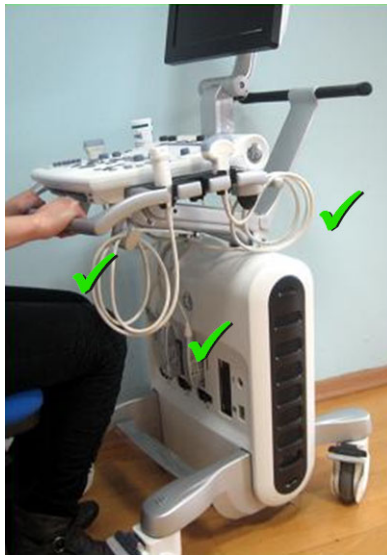

Figure 8-274 Probe in Probe Holder
- 4.) Insert the probe in the probe holder as shown in Figure 8-274.